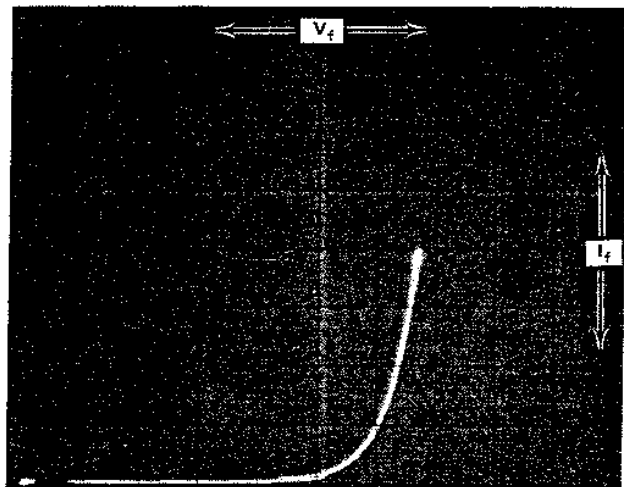

Fig. 7. Typical diode forward voltage characteristic.
14. Set the LEFT-RIGHT switch to RIGHT and turn the VARIABLE COLLECTOR % control clockwise until the diode forward voltage characteristic is displayed (see Fig. 7).